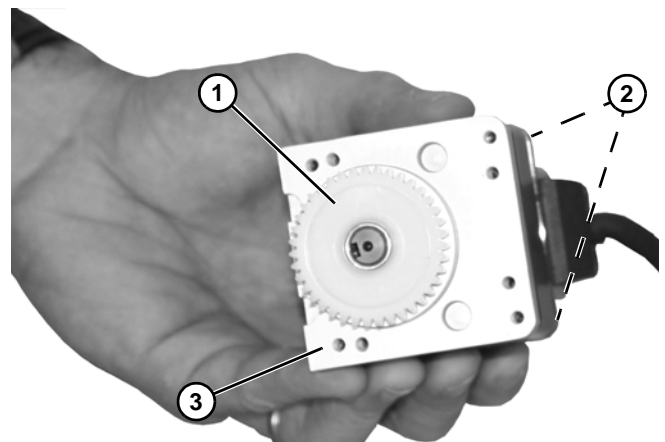

Figure 17
12. Loosen set screw and remove drive gear (Figure 17, item 1).
13. Remove (4) four screws (Figure 17, item 2) securing adapter plate (Figure 17, item 3) to gearmotor.